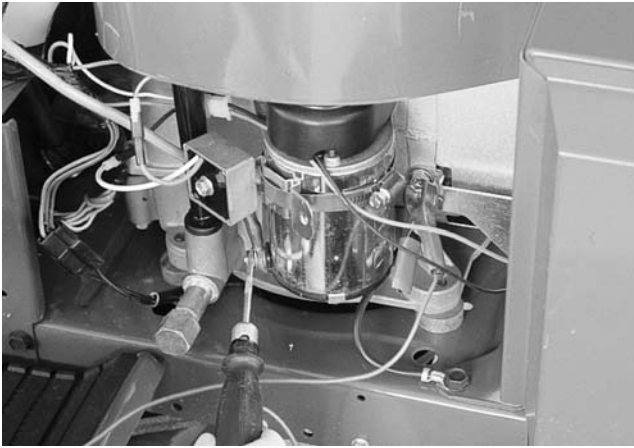

Figure 3-29.
11. Check for voltage at the starter motor by connecting one lead of your tester to the engine ground. Touch the other lead to the starter motor terminal. Turn the key to the start position. If voltage is present and the engine does not crank, all circuits are working properly and the problem is in the engine. Contact your authorized engine service dealer. See Figure 3-29.